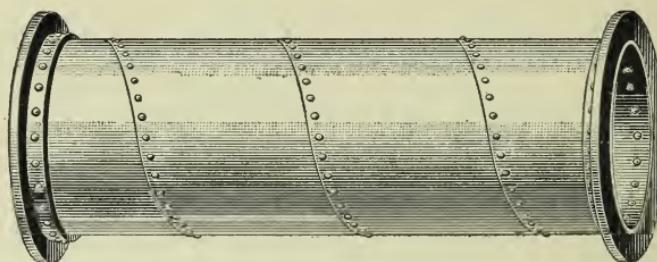

FIG. 1
**9.** The **spiral riveted pipe** is made of sheets of black wrought iron, of certain wire-gauge thickness, split up into ribbons or narrow strips, and passed over a system of rollers that roll it into the required shape, which is shown in Fig. 1.
as in Fig. 1. Sometimes the flange is fastened by expanding and peening the pipe into a recess formed in the flange.